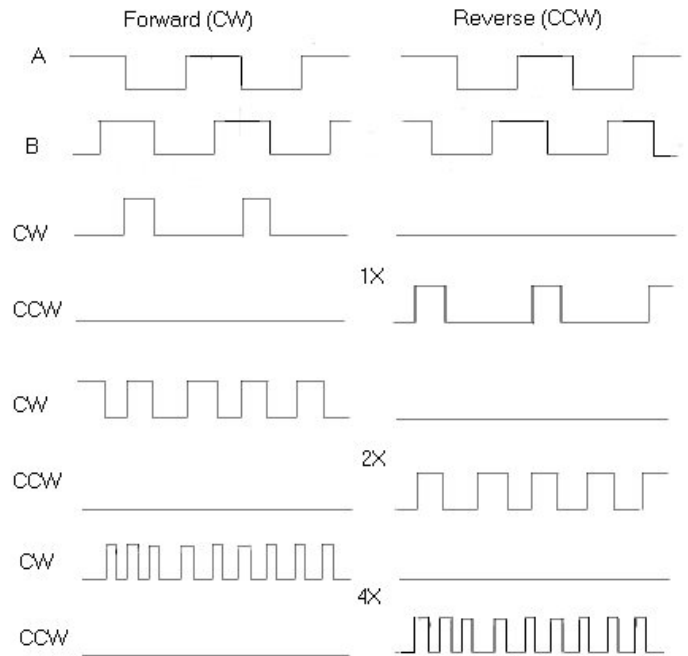

Fig 6. Quadrature direction sensing and resolution enhancement. (CW = clockwise, CCW= counter-clockwise)
- 7) (6 pts) Using only ***TWO*** rising-edge sensitive D flip-flops (with D, CLK, CLR, Q and Q\ pins) and assorted inverters and other logic gates, design a circuit that will produce the ***2x resolution CW output waveforms*** shown in Fig. 6 from the A and B input waveforms. (See arrow below that points to the two “CW” waveforms that you are to design your circuit to produce.) ***YOU NEED NOT DESIGN THE CCW output detection circuit.*** ***Be sure to label your circuit’s A and B inputs as well as your circuit’s CW output.***